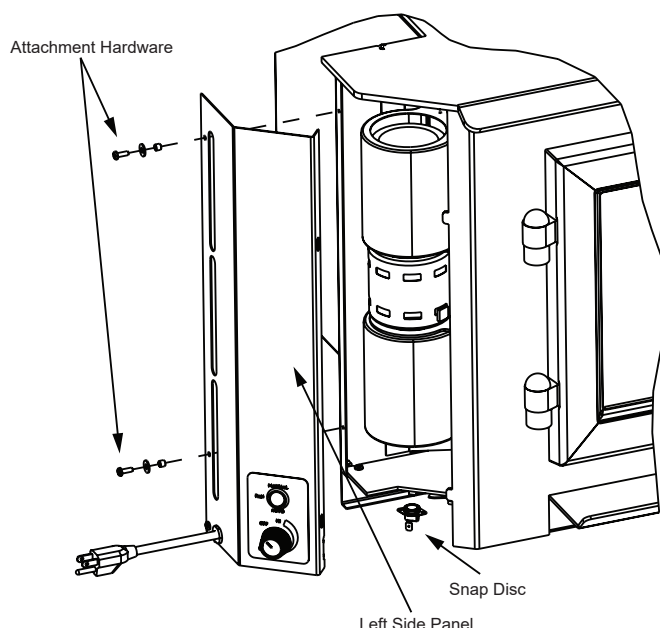

Figure 24.3 - Snap Disc Location
2. Using a Phillips head screwdriver, remove 8-32 screw, washer and bushing assemblies holding left side panel in place. Remove panel (**Figure 24.3**).